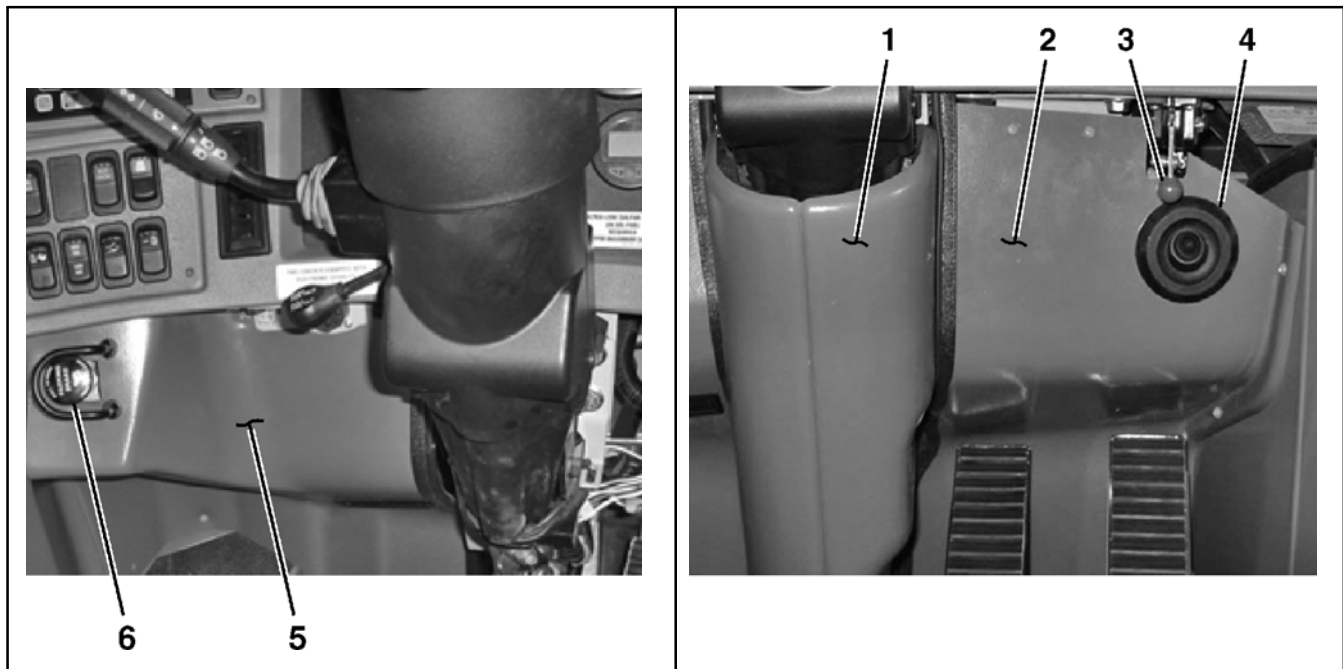

Figure 1. Under-Dash Kickpanel
5. Locate the center under–dash kickpanel, Figure 1, item #1, housing the steering column. Remove and retain the screws. Place kickpanel aside to be re–installed at a later step in this procedure.
6. Locate the RH under–dash kickpanel, Figure 1, item #2, behind the accelerator and brake pedal. Remove and retain the screws. Maneuver kickpanel past the entrance door air dump valve, Figure 1, item #3 and pull forward to access the flex hose attached to the back of the gasper assembly, Figure 1, item #4. Remove the flex hose from the back of the gasper assembly. Place kickpanel aside to be re–installed at a later step in this procedure.
7. Locate the LH under–dash kickpanel, Figure 1, item #5, to the left of the steering column. Remove and retain the screws. Remove the and retain the park brake knob, Figure 1, item #6. Place kickpanel aside to be re–installed at a later step in this procedure.